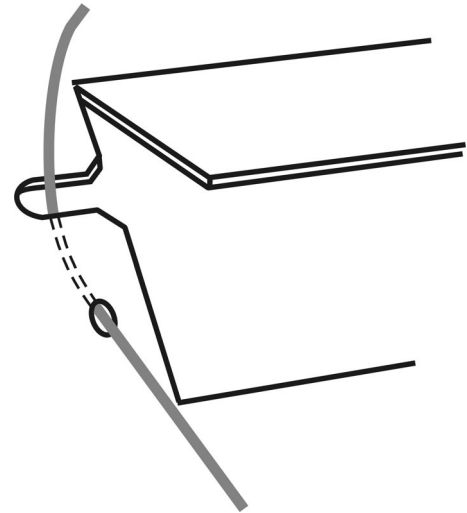

Figure 14. Upper cable retention
5. The rear of the hotbox has a slot and hole each side of the outlet opening. Assemble one end of the cable to the top of the fire by passing it through the small round hole and locking by positioning the cable in the adjacent slot. See figure 14. Give the cables a pull so that they grip.